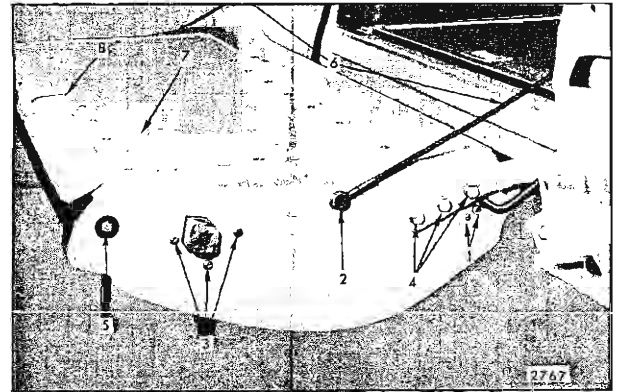

Fig. 9-47—Tail Gate Hardware - Right Side
3. Remove screws securing lock to tail gate (Fig. 9-47).
2. Remove torque rod bearing plate (Fig. 9-47).